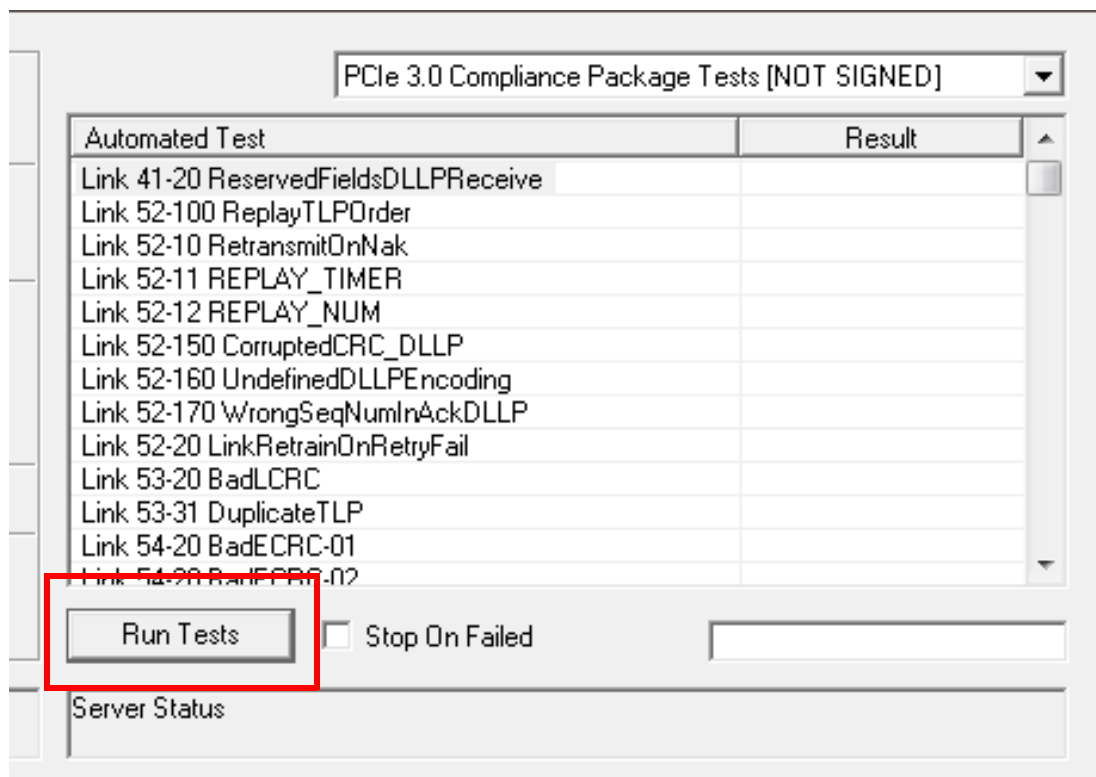

Figure 3.7: Test Selection.
7. After selecting the desired tests, select the **Run Tests** button to execute the test cases. See Figure 3.7.